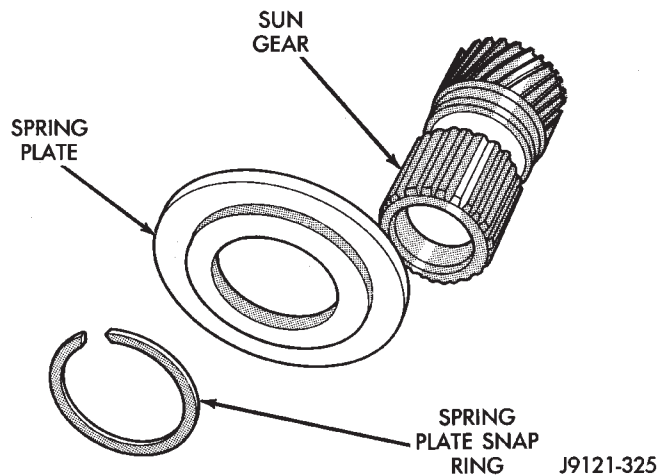

Fig. 334 Sun Gear And Spring Plate Assembly
(13) Install direct clutch spring plate on sun gear. Then secure plate to sun gear with snap ring (Fig. 334). Shoulder side of plate should face outward and toward front.